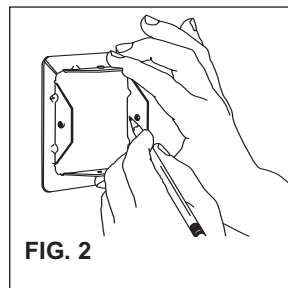

FIG. 2
- i.) Mark a nom 1-3/4" square opening. Make sure opening is square and plumb. The inside opening of the wall plates can be used as a template (See Fig. 2).